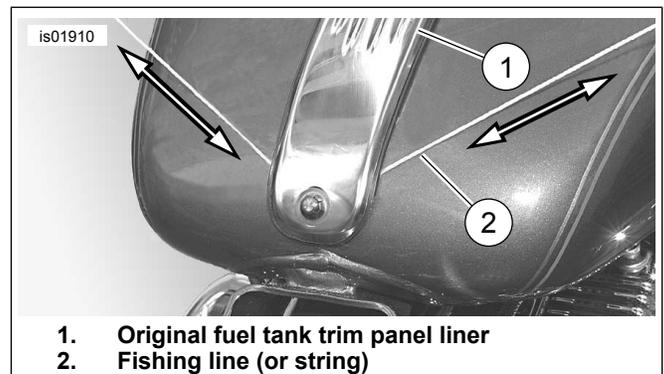

Figure 1. Removing the Existing Trim Panel (XL 1200C)
1. See Figure 1. Insert the fishing line (2) between the rear of the fuel tank and the liner (1) on the underside of the original trim panel.